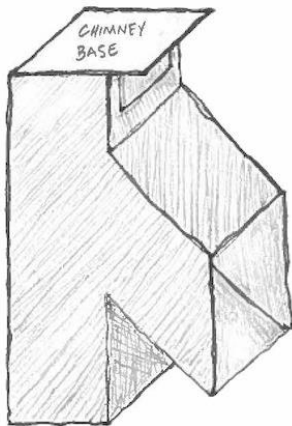

Figure 7 - Partially assembled Chimney, adding the Chimney Base. (Image credit: Future Generations University)
18. Join the four “Flame Spreader” pieces together at the angled edges (see Figure 7).